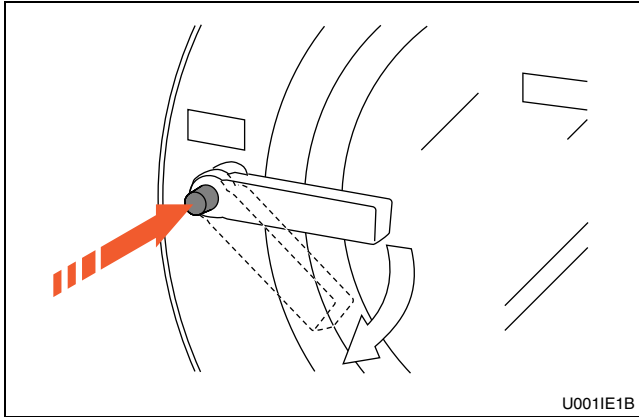

Figure 16
2. Push button and turn handle clockwise to open. Refer to *Figure 16*.